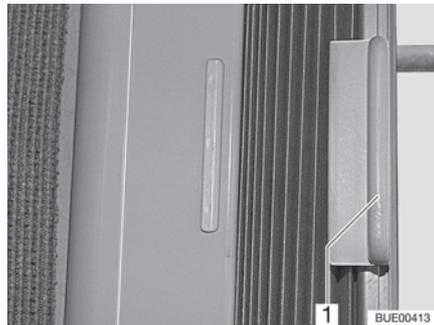

Fig. 37 Roman shade
- Grasp the handle (Fig. 37,1) of the Roman shade and slide to the left or the right.